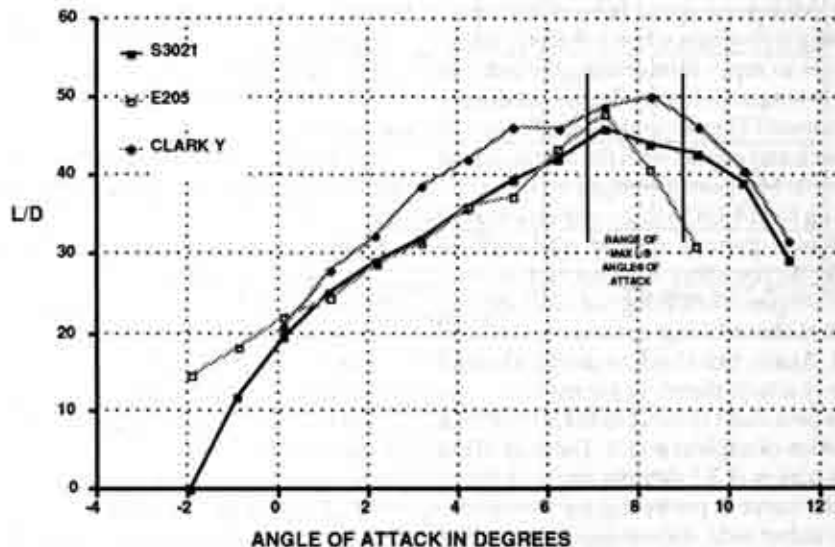

FIGURE 2 TYPICAL ANGLE OF ATTACK FOR MAXIMUM LIFT TO DRAG RATIO FOR SEVERAL COMMON AIRFOILS
other very different airfoils (all for Reynolds Numbers of about 100,000): the Eppler 205 and the old Clark-Y. The results are shown in Figure 2. Note that the maximum lift to drag ratio for the wing alone typically occurs between 7 and 9 degrees.
If the world were a simple place, we could set the decalage equal to the angle of attack corresponding to, for example, the maximum L/D from Figure 2 and move the center of gravity (CG) around until the sailplane flew straight and level and it would be in perfect trim! Don't try this because you will likely demolish the sailplane before you get the CG set and if you do get the CG set it will be in the wrong place.